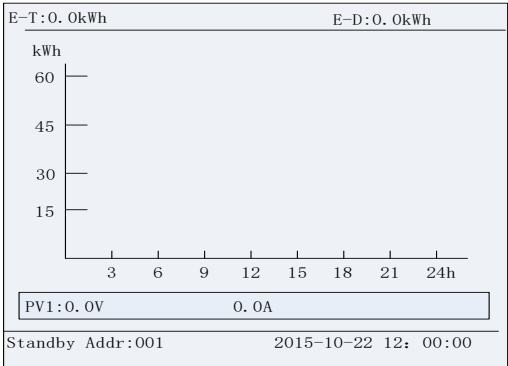

Figure 6-5 Normal Operation Status
- ❑ When the LCD screen shows the normal operation status Figure 6-5 and the “RUN” light on the LED panel is illuminated, this is an indication that the grid connection and power generation were successful.